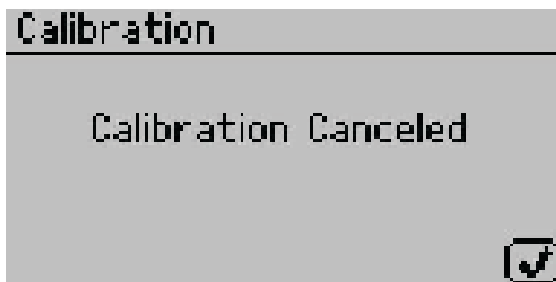

Figure 57 Calibration canceled confirmation
17. If the calibration is canceled at any point, a Calibration Canceled confirmation will appear. Select **OK** to continue (Figure 57).